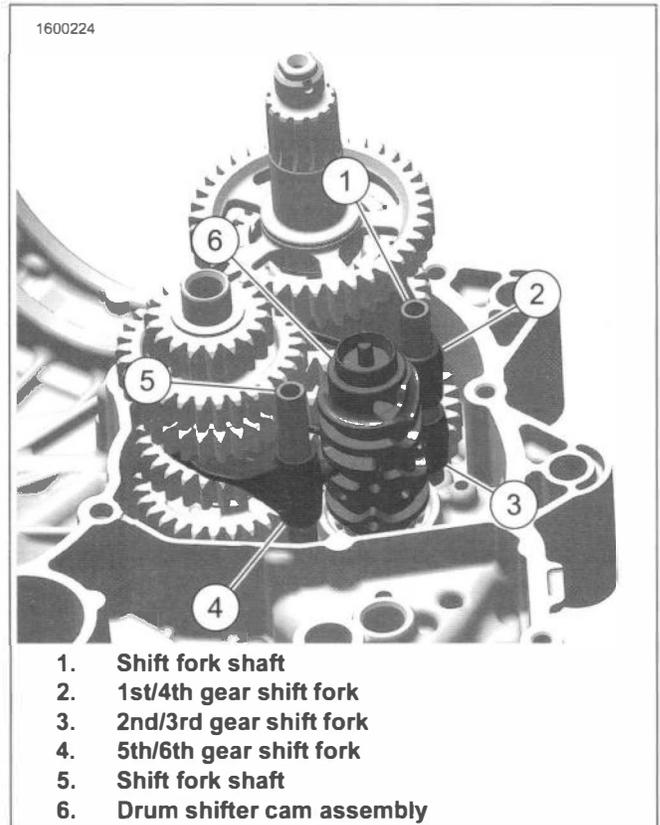

Figure 5-32. Shift Forks
1. See Figure 5-32. Remove shift forks.
- a. Remove shift fork shaft (5) and 5th/6th gear shift fork (4).
- b. Remove shift fork shaft (1) and 1st/4th gear shift fork (2).
- c. Remove 2nd/3rd gear shift fork (3).
- d. Remove drum shifter cam assembly (6).
1. See Figure 5-32. Install shift forks.
- a. Install drum shifter cam assembly (6).
- b. Install center (5th/6th) shift fork (4), identified by the letter "C" facing up.
- d. Install shift fork shaft (5).
- e. Install "R" side (2nd/3rd) gear shift fork (3) on the bottom "R" facing down.
- g. Install "L" side (1st/4th) gear shift fork (2) on the top "L" facing up.
- h. Install shift fork shaft (1).